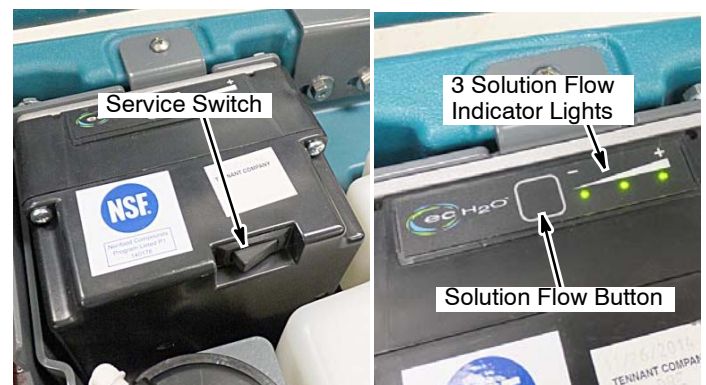

Fig. 67
1. Turn key to the on position (Figure 67).